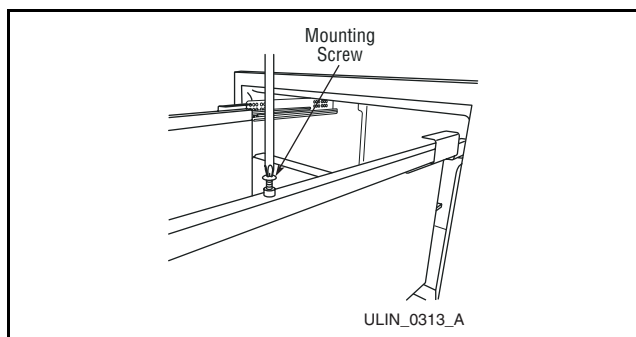
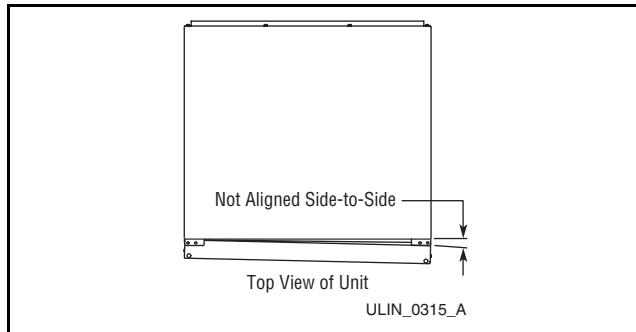

Figure 45
Figure 46
3. Remove the mounting screws (**Figure 45** and **Figure 46**).
See **Figure 46**. The drawer will need a side-to-side adjustment if, when viewed from the top, the drawer front is not square with the sides of the cabinet. This is caused by one of the slides being mounted too far forward on the unit's liner.